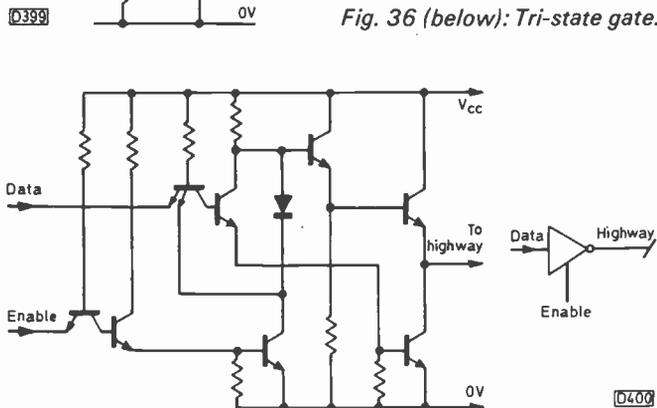

Fig. 36 (below): Tri-state gate.
**Tri-state gate:** A form of *highway driver* with better characteristics than the simpler open-collector gate. A tri-state gate has an *enable* pin as well as the usual gate inputs. See Fig. 36. With the enable pin at 1, the gate performs like a normal gate. With the enable pin at 0, the gate output goes to a float or high-impedance state. The gate output is thus at 1, 0 or Hi-Z, hence the name.